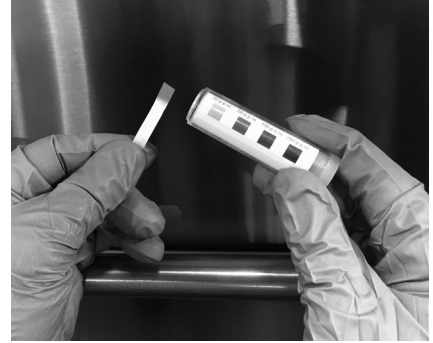

Fig. 25
3. Compare the test strip to the test scale provided with your testing kit (Fig. 25). If the sanitizer level is out of limits (i.e. below 50 ppm or above 100 ppm), adjust the dosing. Refer to Chemical Pump Programming (page 22), for adjustment instructions, or contact your chemical provider.